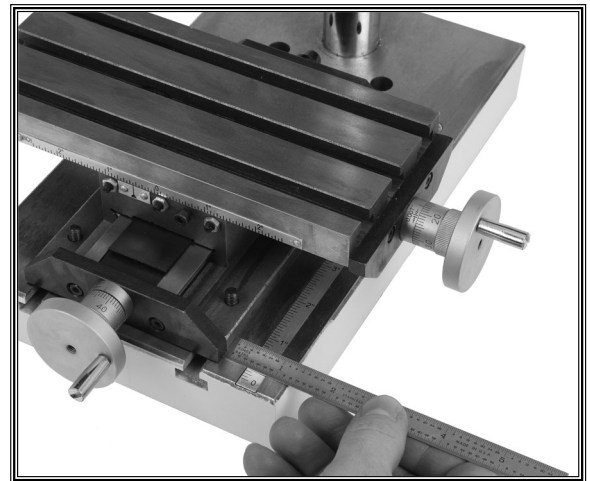

Figure 9. Aligning the compound slide table.
4. Measure at the front and back of the compound slide table as shown in **Figure 9** to make sure the compound slide table is parallel to the base.